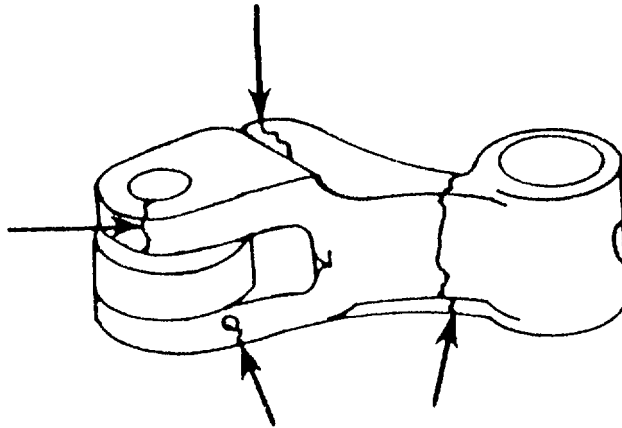

FIGURE 4-23. *Inspecting Levers for Cracks.*
- (2) Inspect the cam follower housing for cracks or other damage. Discard if damaged or worn.
- (3) Check the bushing in the cam follower lever for scratches or other damage.
- (4) Use a magnetic inspection method to check the levers for cracks. Apply coil magnetization to the levers. Use 300 to 500 amperes with residual Magnaglo. Figure 4-23 shows the areas of the lever to check carefully for cracks.